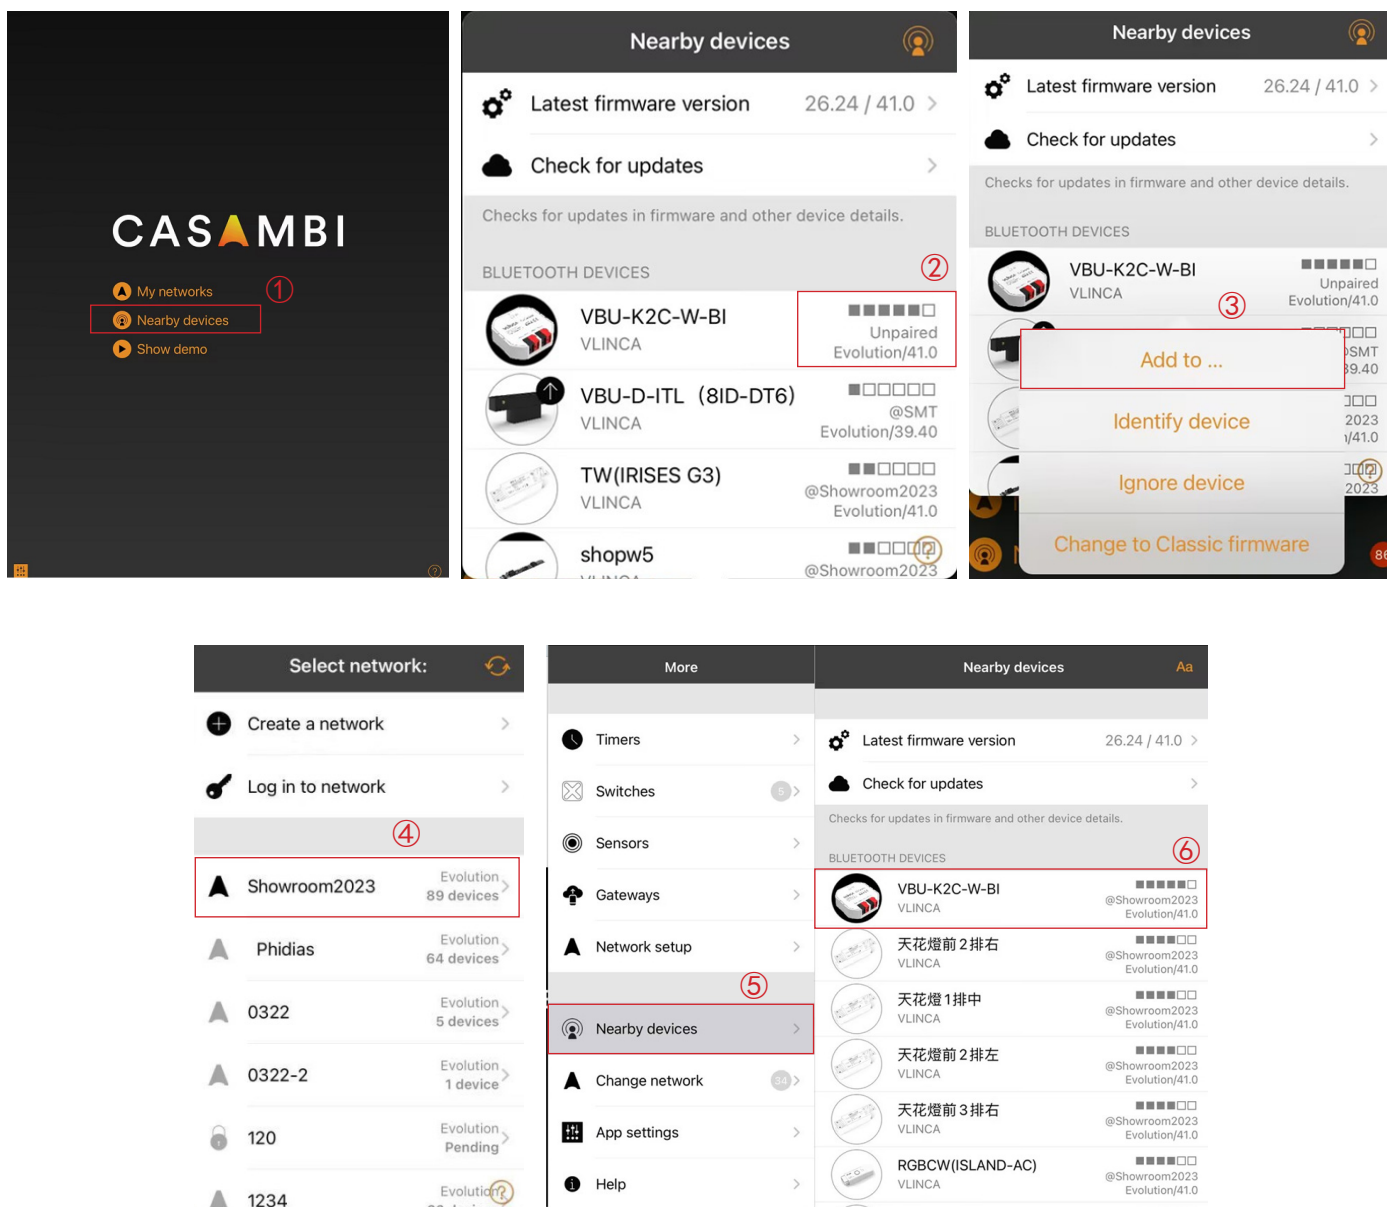
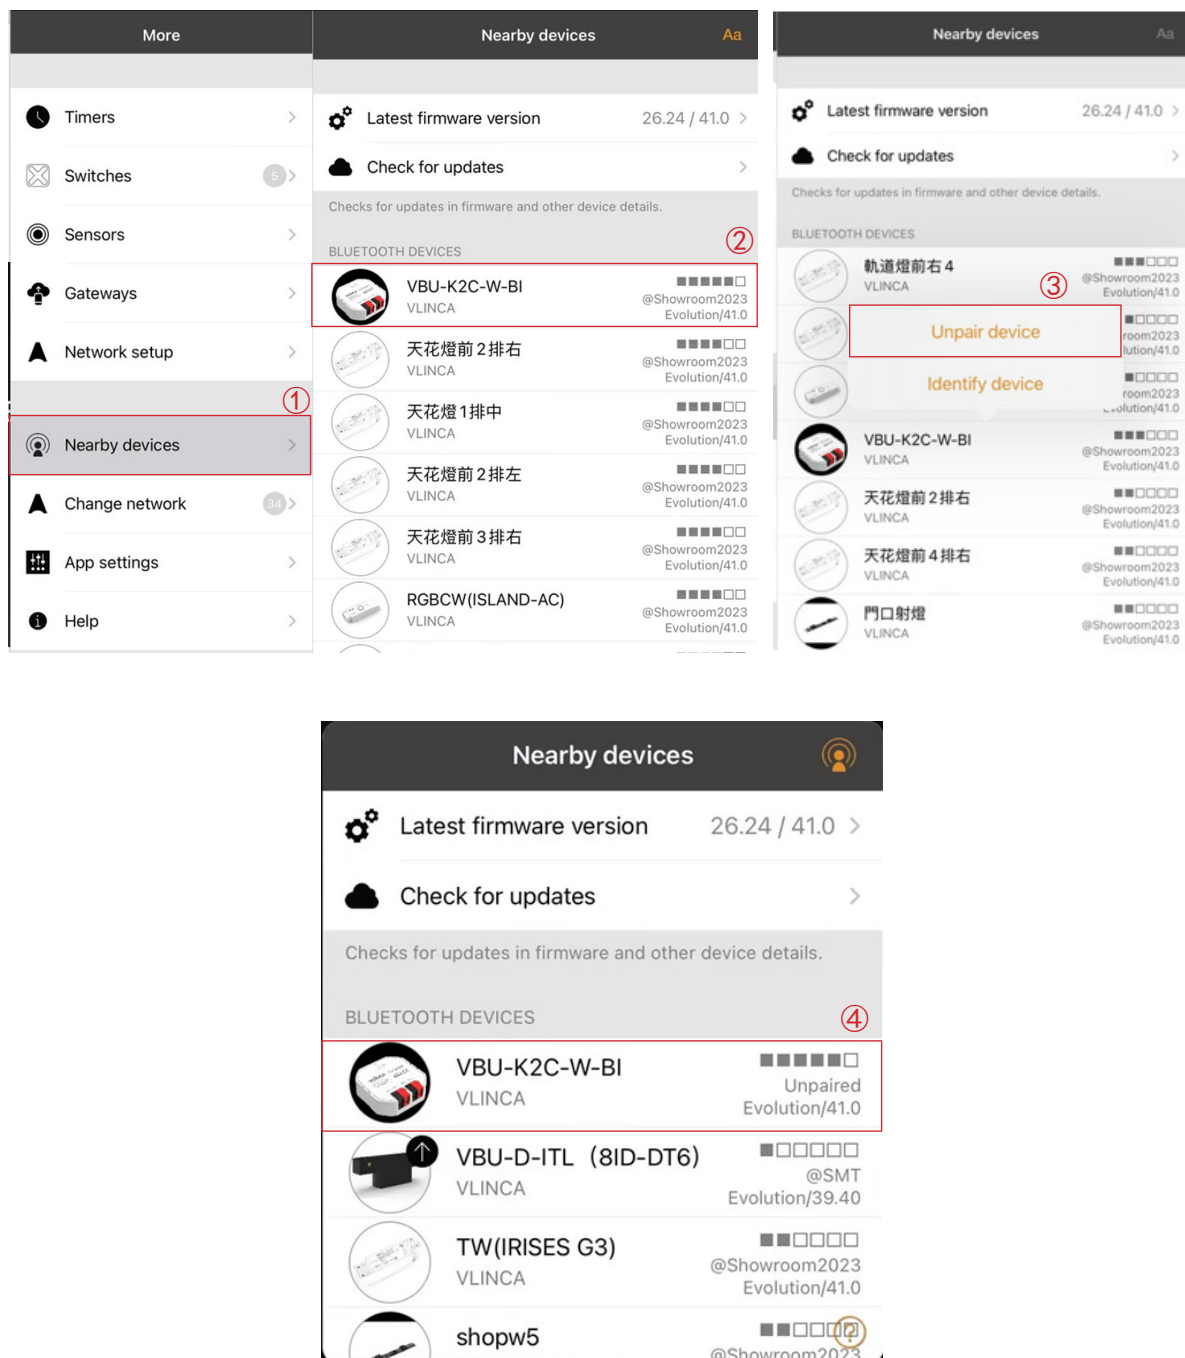

Figure 2
Figure 3
- if it is unpaired, or paired in your managed network, follow below steps **as in Figure 2 (pair)** and **Figure 3(unpair)**.
success (Figure 3).